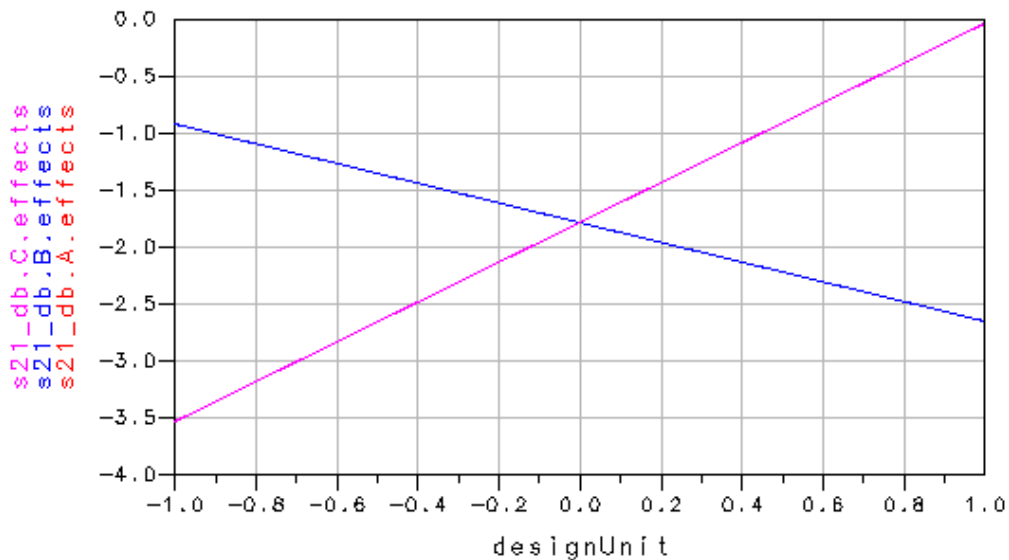

Figure 4-9. Effects Plot for DOE Goal S21
6. Click **Add** one more time and click **OK**. The Effect plot appears as shown in Figure 4-9.